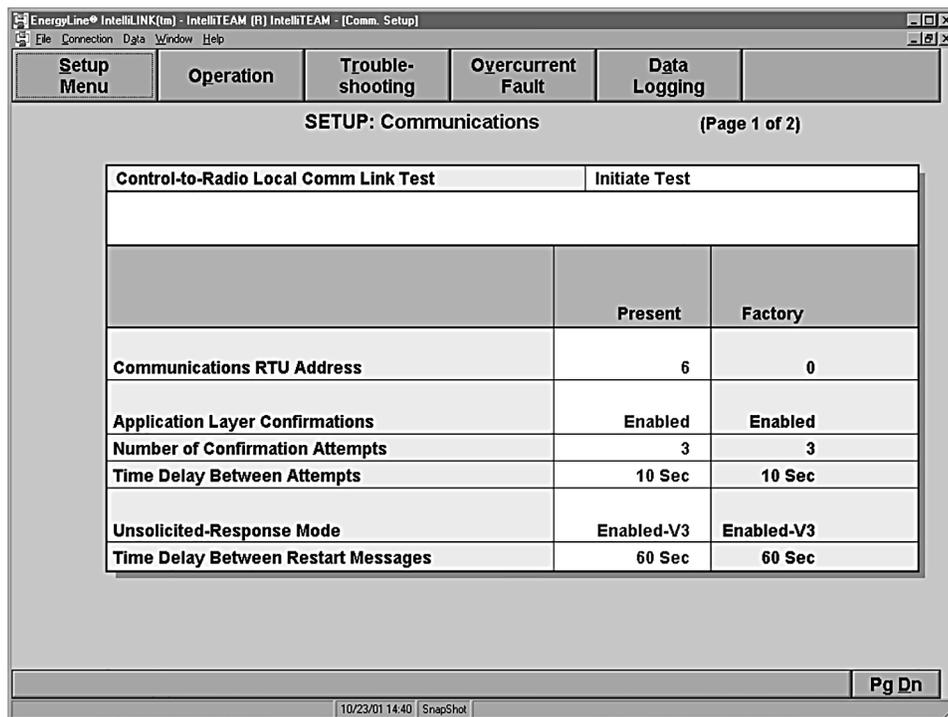

Figure 11. Page 1 of the *Setup>Communications* screen.
**STEP 7.** At the *Setup Menu* screen, click on the **Communications** button to display Page 1 of the *Setup>Communications* screen. See Figure 11.